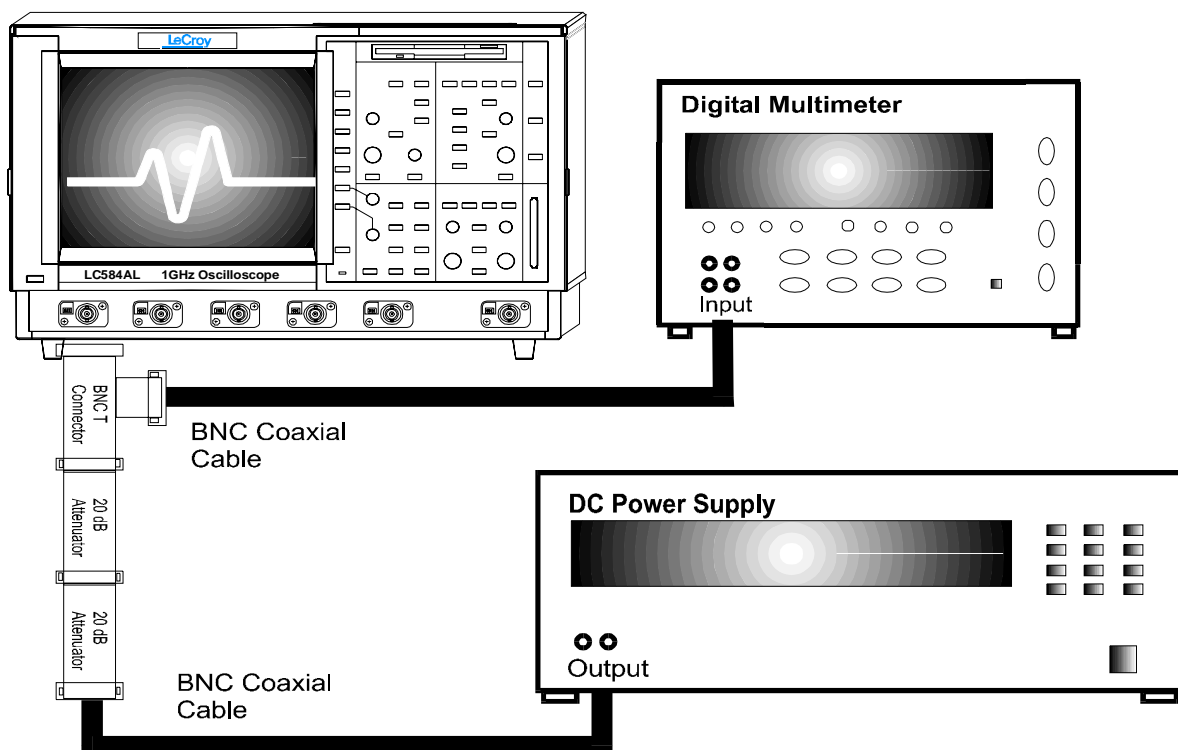

Figure 5-1 : DC 50Ω Accuracy Equipment Setup for 2, 5, 10 and 20 mV/div
- For the low sensitivities: **2 mV, 5 mV, 10 mV and 20 mV/div.**, connect the test equipment as shown in Figure 5-1.
- Connect the test equipment as shown in either Figure 5-1 or 5-2 or 5-3.